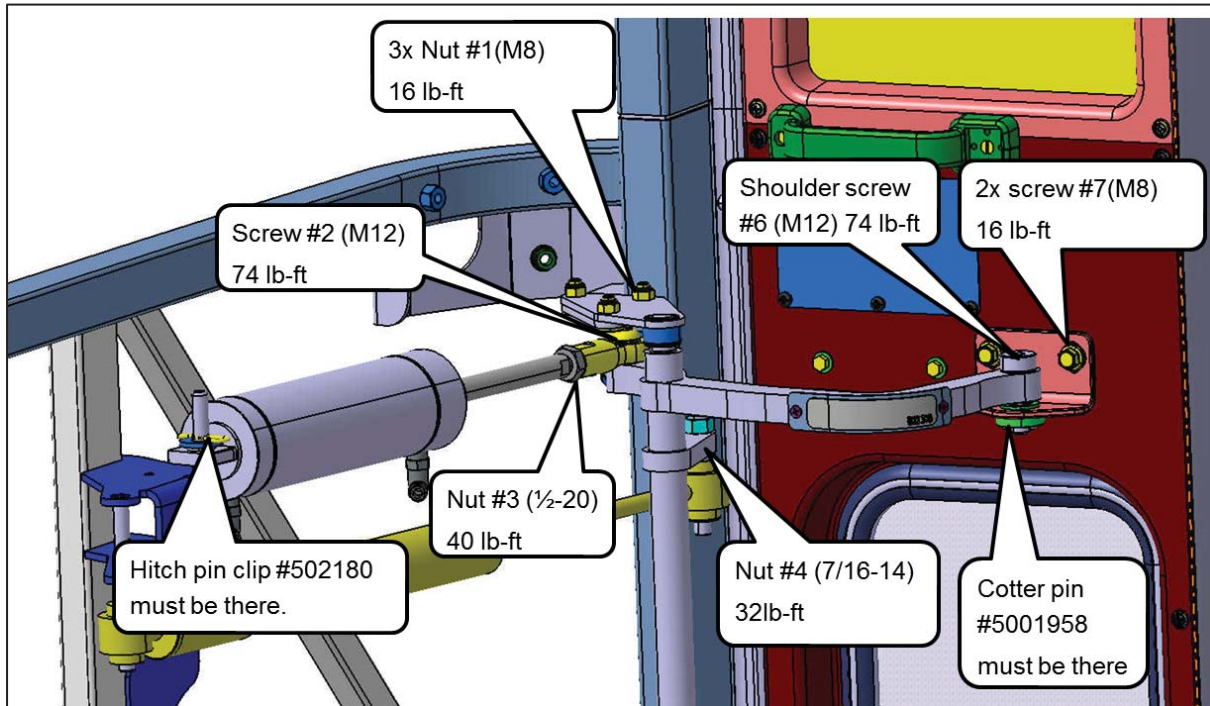
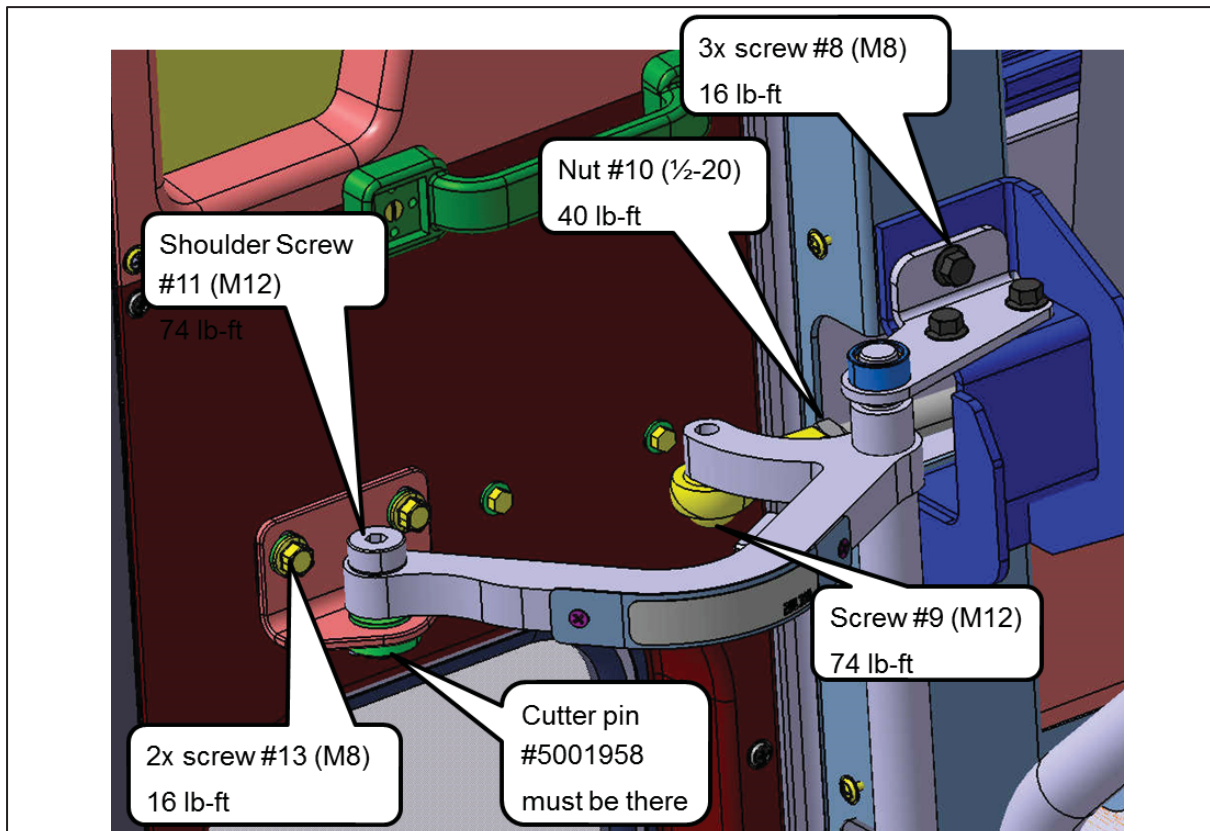
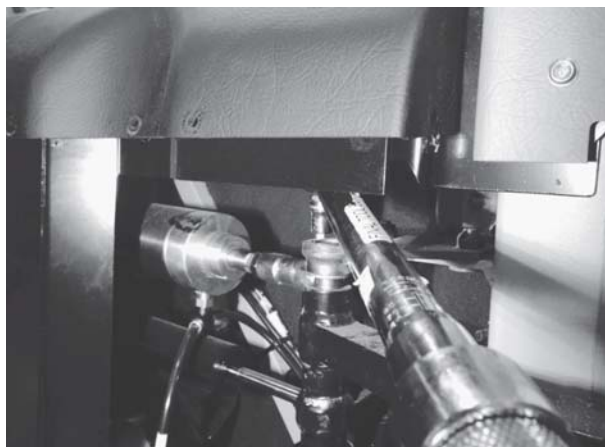

Figure 2 Torque reference, fore door links
Figure 3 Torque reference, aft door links
Figure 8
(#3,fig. 2) ; (#10 fig. 3)
- 6) Tighten shoulder screw on door side to **74 lbf-ft.** (fig. 8 & #2, fig. 2).
Tighten both items to **32 lbf-ft.** (#4, fig. 2)
Items # 6, fig. 2 and #11, fig. 3:
10) Finally, tighten each item shown in Torque Reference Figures 2, 3 and 4, with the exception of the items already tightened so far in the bulletin. Apply torque seal.